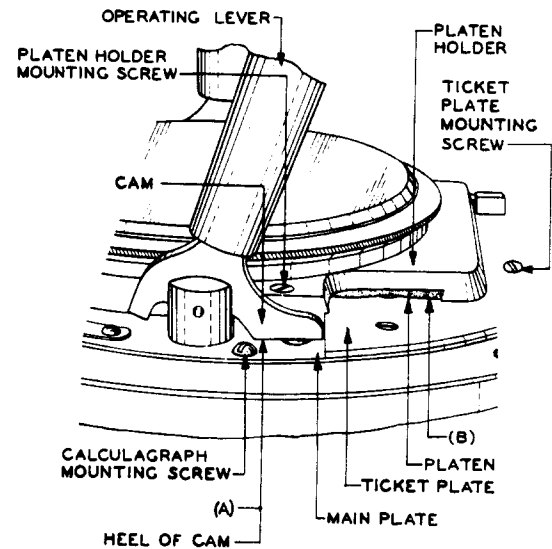

Fig. 10 — Operated Position of Operating Lever
2.14 Plunger Operation: Fig. 10(A) — The operation of the stamping levers shall give a clear impression of the dials and arrows or pointers when a 0.015-inch gauge is inserted between the cam and main plate with the heel of the operating lever in contact with the gauge.
2.16 Ticket or Card Entry: Fig. 10(B) and 11(A) — The ticket or card shall enter the ticket slot freely.